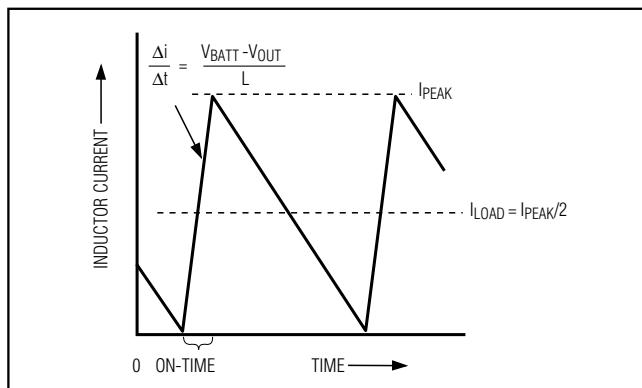

Figure 4. Pulse-Skipping/Discontinuous Crossover Point
where K is the on-time scale factor (Table 4). The load-current level at which PFM/PWM crossover occurs, $I_{LOAD(SKIP)}$, is equal to $1/2$ the peak-to-peak ripple current, which is a function of the inductor value (Figure 4). For example, in the standard application circuit with $V_{OUT1} = 2.5V$, $V_{IN} = 15V$, and $K = 2.96\mu s$ (Table 4), switchover to pulse-skipping operation occurs at $I_{LOAD} = 0.7A$ or about $1/6$ full load. The crossover point occurs at an even lower value if a swinging (soft-saturation) inductor is used.
- 1) Determine the minimum (valley) inductor current ($I_{L(MIN)}$) under conditions when V_{IN} is small, V_{OUT} is large, and load current is maximum. The minimum inductor current is I_{LOAD} minus half the ripple current (Figure 4).